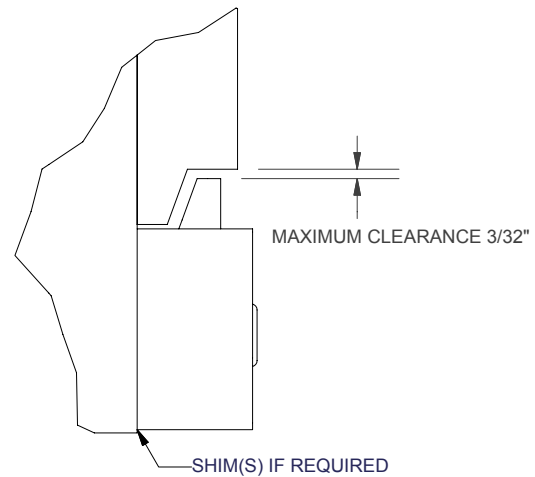

Figure 3-3, Lower Hook Clearance
10. Install the bolt-on lower hooks. Inspect clearance to the carriage on lower hooks. Adjust the lower hooks for a maximum clearance of **3/32"** (see Figure 3-3). Tighten the bolts to **40-50 ft-lbs**.